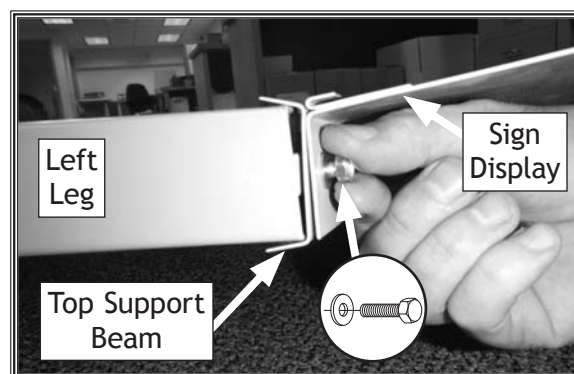

Figure 19. Attaching sign display to the top of rack.
13. Attach all three pieces together with the fasteners that were removed in **Step 12**, as shown in **Figure 19**.